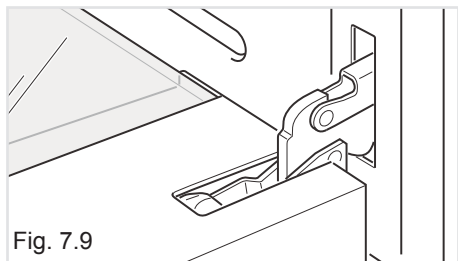

Fig. 7.9
- Fully open the oven door (fig. 7.9).